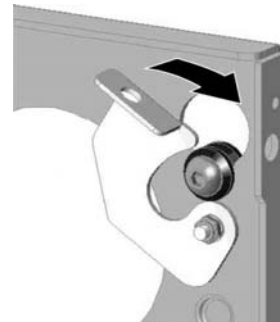

Figure 6. Close Q-Latch
4. Secure the mounting bracket to the MAC-160 by completely engaging the Q-latch in the locked (closed) position (see Figure 6).